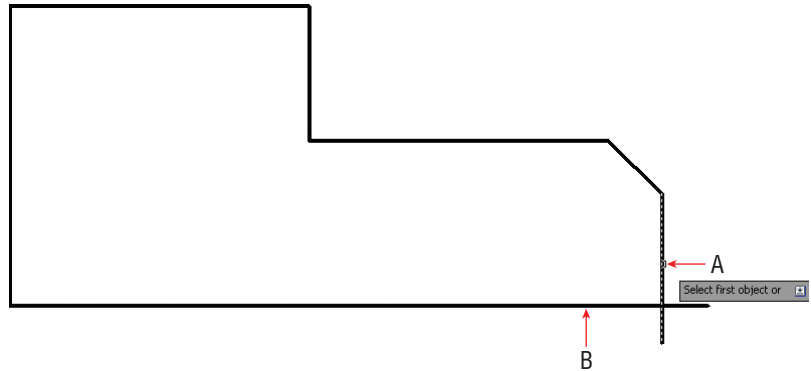

FIGURE 3.9 Filleting with a zero radius to form a corner
10. Type **F** (for Fillet), and press Enter. Verify that Radius is set to 0 in the Command window, and then click the vertical and horizontal lines on the portions of the lines that you want to keep (marked A and B in Figure 3.9). The drawn shape forms a closed loop.